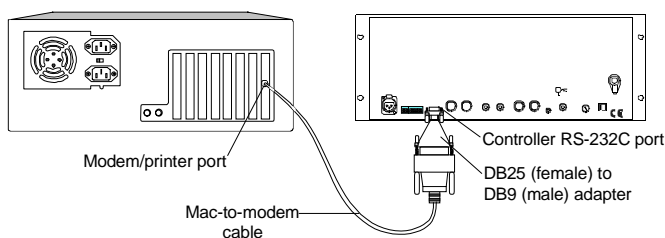

Figure 7-7. Connecting a Macintosh to the controller for download/upload.
3. Connect the Mac-to-modem cable to the DB25 end of the adapter. See Figure 7-7: